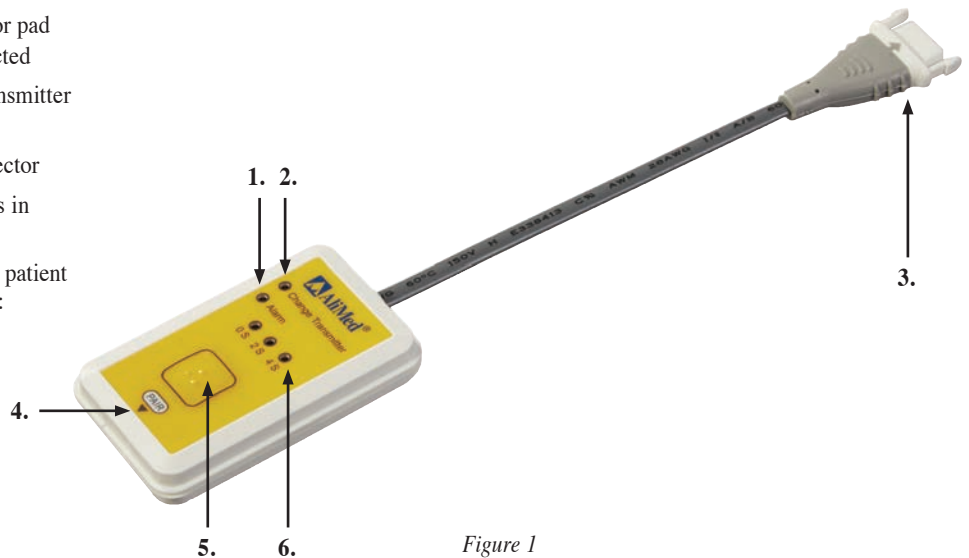

Figure 1
*Note: The Transmitter operates with a sealed, non-replaceable battery. Replace the Transmitter when the Change Transmitter Indicator illuminates (Fig. 1).*
3. Place Transmitter next to the Base matching PAIR on the Transmitter to PAIR on the Base (Fig. 2). *Note: Pair Status Indicator on Transmitter (Fig. 1) will illuminate when in range of the Base.*
4. If pairing is successful, the Base will beep and the assigned channel will blink green once. All LEDs on Transmitter will blink three (3) times.
2. The assigned channel on the Base will blink green and the Alarm Indicator on the Transmitter (Fig. 1) will momentarily illuminate.
4. Press and hold the Delay Setting Button (Fig. 1) until the LED illuminates for the current delay setting.